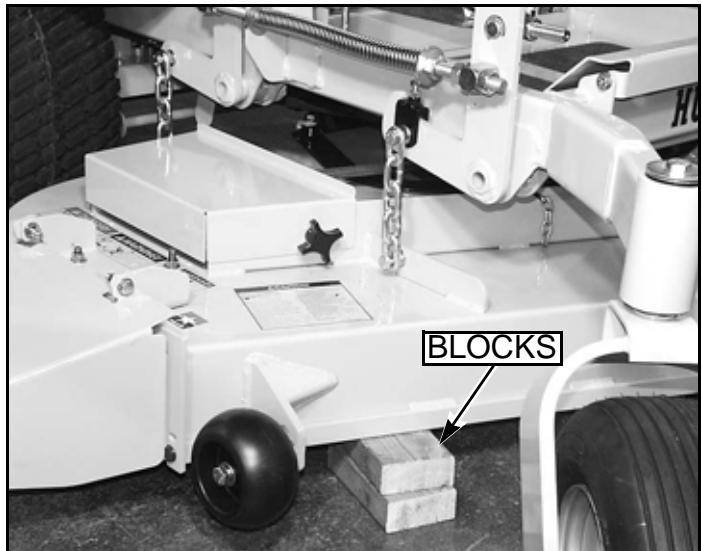

FIG. 60
3. Raise deck and place 3" block under the back of the deck and a 4" block under the front of the deck "FIG. 60". This will set the cutting height at 3-1/2".